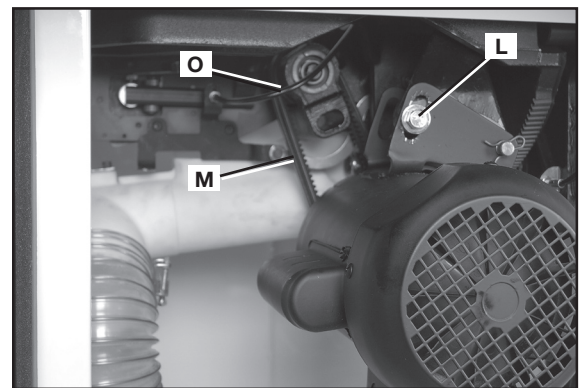

FIG. 87
3. Loosen the bolt (L) Fig. 87. Lower the saw arbor to remove tension from the belts (M). Tighten the bolt (L).
5. Lower the saw arbor to its previous position. Remove the belt (M) Fig. 87 from the pulleys.
7. Loosen the bolt (L) Fig. 87, and carefully let the motor rest on the belt.
8. Correct belt tension is indicated with a 1/4" (6.4 mm) deflection in the center span of the pulleys, using light finger pressure. Tighten bolt (L) Fig. 87.
9. Ensure the cable (O) Fig. 87 is oriented as shown.